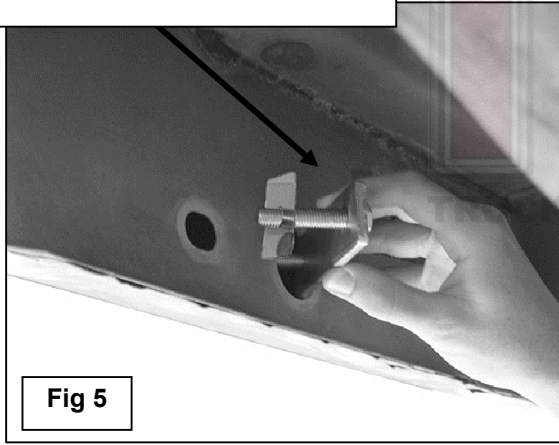

Fig 5
- Align the Mounting Bracket with holes in the pinch weld. Attach the Mounting Bracket to the pinch weld using the included (2) 8mm x 25mm Hex Bolts, (4) 8mm Flat Washers, (2) 8mm Lock Washers and (2) 8mm Hex Nuts. **NOTE:** Insert Bolt with Flat Washer from the outside-in. Do not tighten hardware at this time.
Note for 1997-98 3-Door models only: The 3-door model uses the included (1) 10mm Narrow Bolt Plate for driver side rear Bolt Plate installation. Thread (1) 10mm Plastic Retainer partially onto (1) threaded end on the Bolt Plate, (**Figure 5**). Insert the other end of the Bolt Plate, (without plastic retainer), into the large round hole and back out